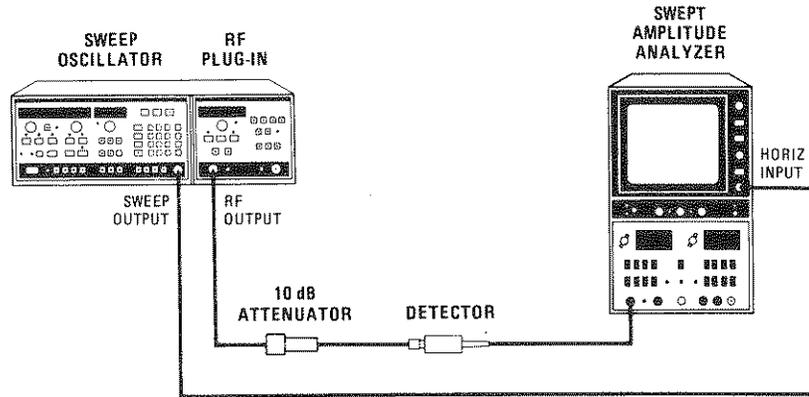

Figure 5-30. Power Sweep Test Setup
1. Connect equipment as shown in Figure 5-30. Select 8350A  $\square$  MOD.